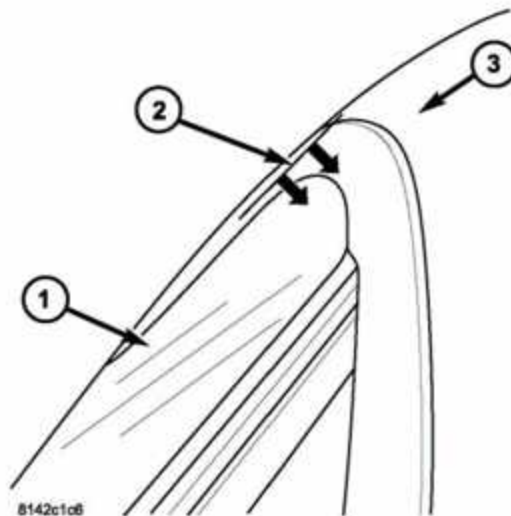

Fig. 3 WINDOW GLASS AT ROOF SEAL
- 3. With the door latched in the second catch position (closed tight), the edge of the window glass must disappear completely under the roof weather-strip (Fig. 3) .
14. With the door latched in the second catch position (closed tight), the edge of the window glass must disappear completely under the roof weather-strip(Fig. 3).